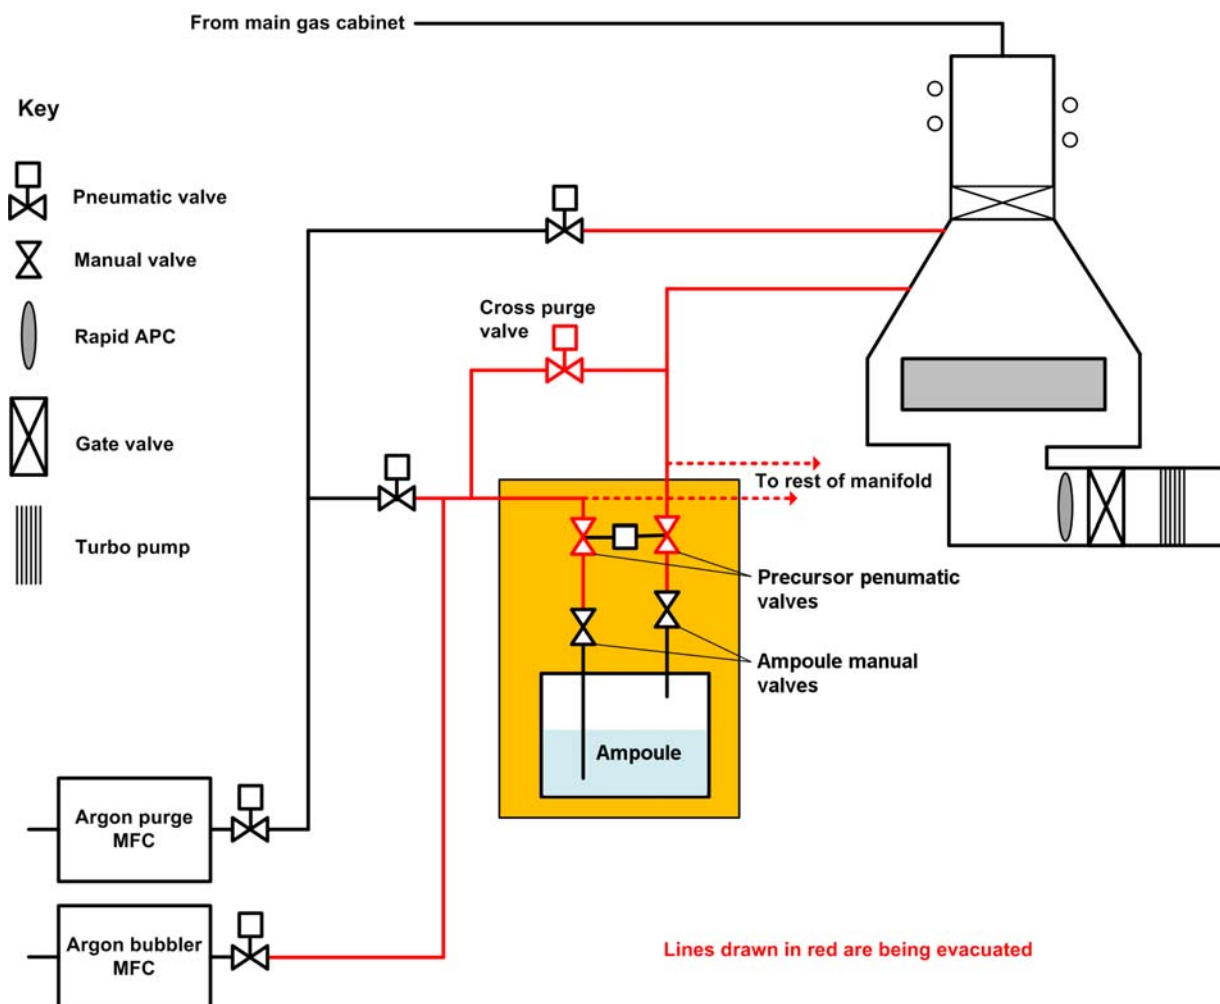

Figure 5-5 Pumping and purging the delivery lines on a manifold
- 2 Using the keyswitch, open the cross-purge valve on the selected manifold (see Figure 5-5). This enables the inlet or purge manifold to be pumped. Re-start this section if an over-pressure alarm shuts down the process. If more than three over pressure alarms occur consecutively, investigate for a vacuum leak on the ampoule fittings.